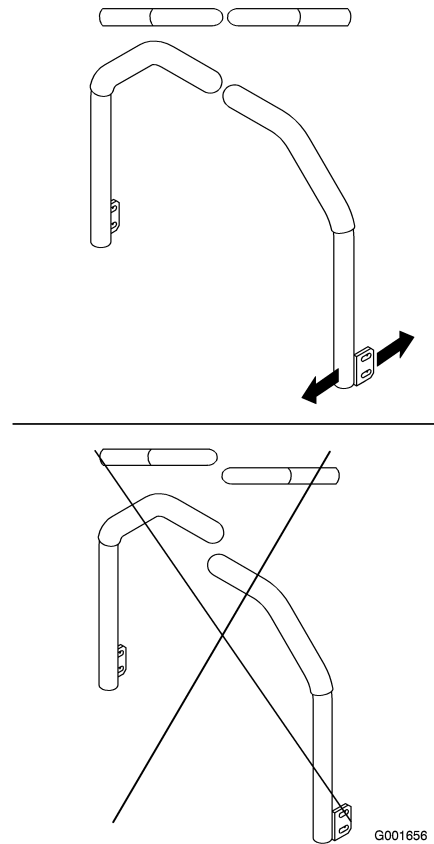

Figure 13
3. In the neutral position, raise the levers, bringing them together, and slide them until they are aligned, then tighten the bolts (Figure 13).